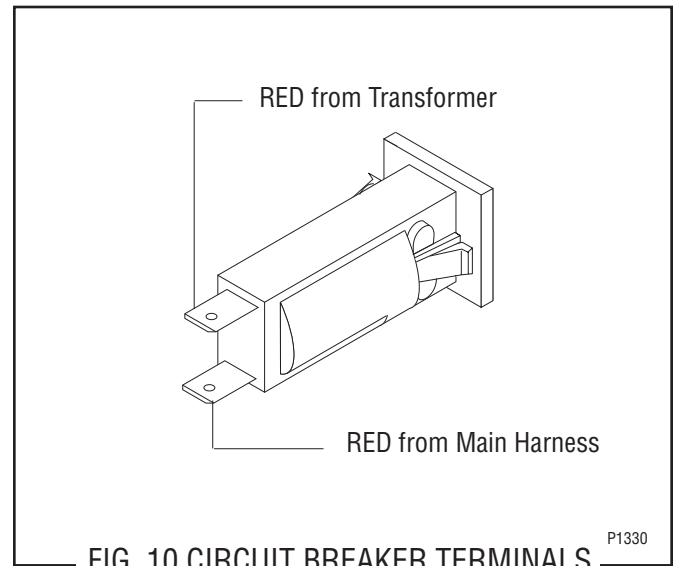

FIG. 10 CIRCUIT BREAKER TERMINALS
8. Refer to Fig. 10 when reconnecting the wires.
NOTE: When reconnecting wires refer to Fig. 10 for circuit breaker, Fig. 34 for fuse holder, Fig. 51 for transformer and Fig. 22 for contactor.